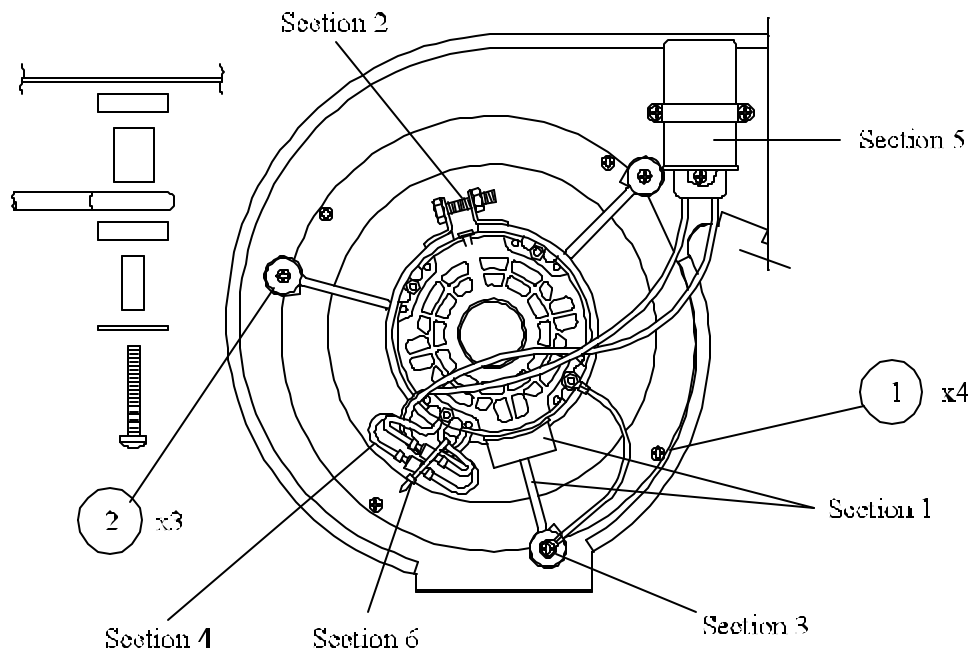

FIGURE 7
3. Remove 4 screws from venturi (See #1, Figure 7).
4. Remove 3 screws from motor mount bracket (See #2, Figure 7).
Note: Upon reassembly, the references made on Figures 7 and 8 shall be used for proper reassembly.